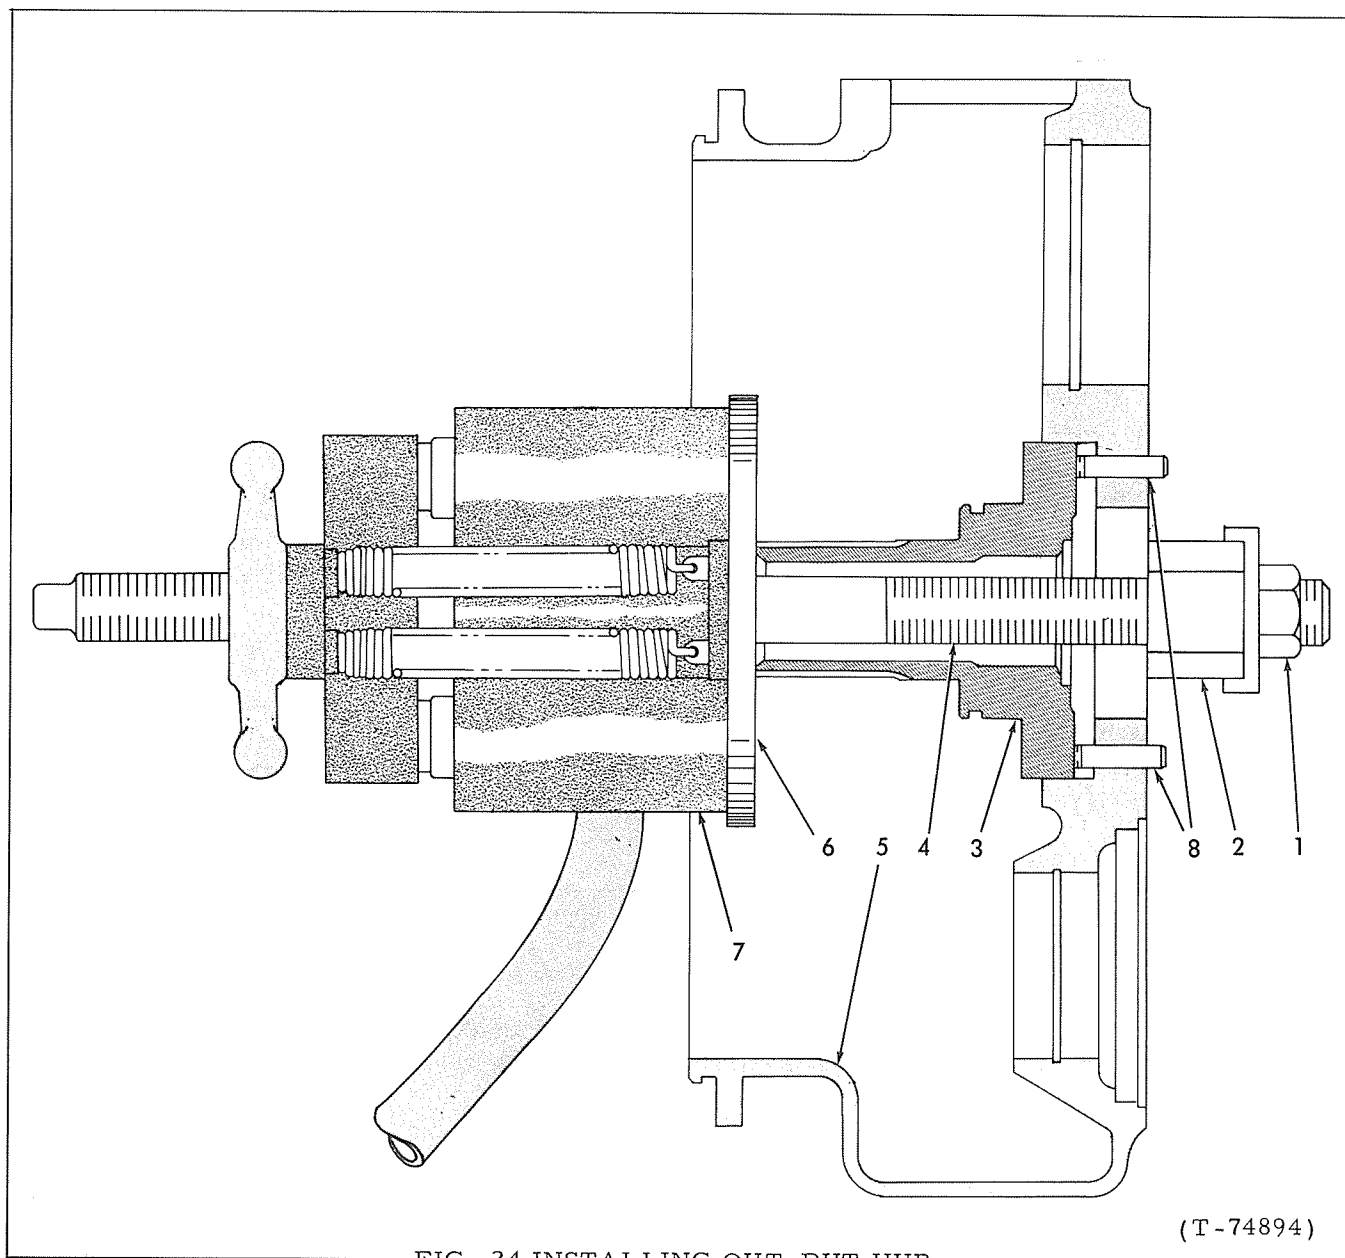

FIG. 24 INSTALLING OUT-PUT HUB
1. Install two guide studs (approximately 2" (50mm) long) in output hub and install gasket over guide studs. Align marks placed on output hub and housing at disassembly and start guide studs through housing. Assemble tools as shown in Fig. 24; be certain push-puller head does not cover holes which are aligned with guide studs. Press output hub into housing until bottomed; remove guide studs.
Output hub is .002"-.006" (0.050-0.152mm) tight fit in housing. Freezing output hub in dry ice for 1 to 2 hours will aid installation; freeze with guide studs installed. Housing may be damaged if output hub is not installed using method shown in Fig. 24.